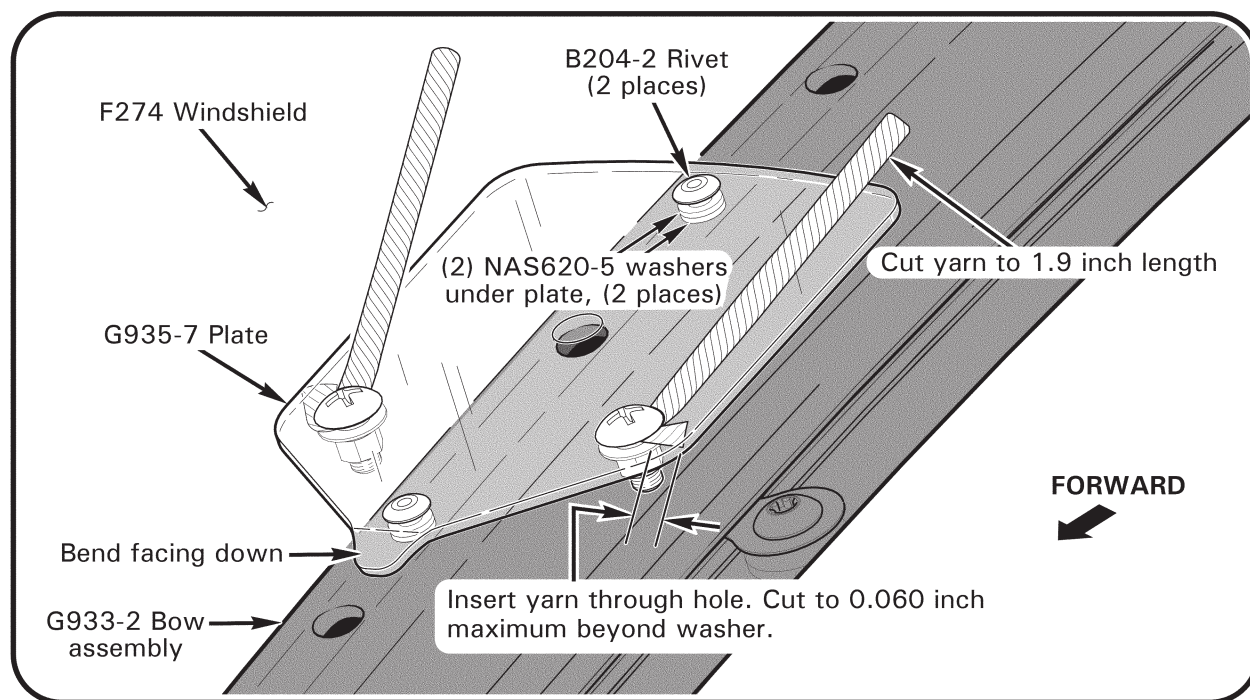

FIGURE 52-6 G935-7 PLATE INSTALLATION
1. Refer to Figure 52-6. Locate (2) 0.128-inch diameter holes adjacent to 11th screw up from bottom of G933-2 bow assembly.